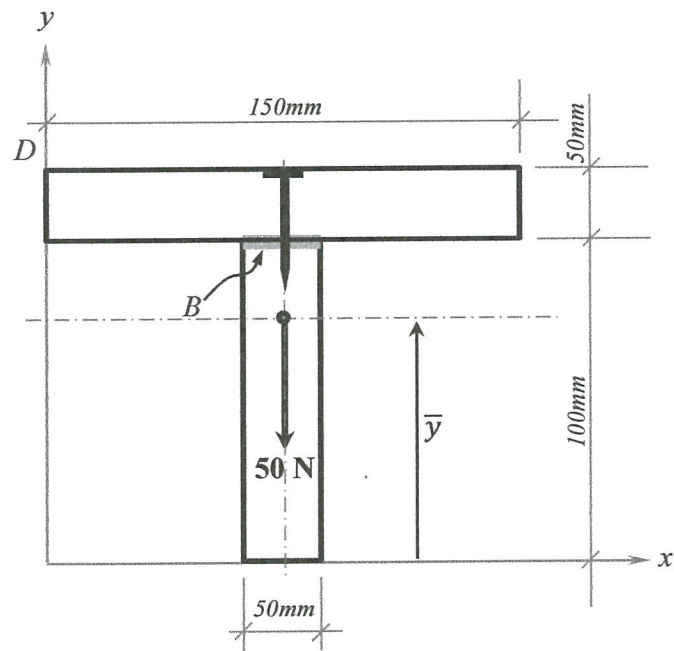

FIGURE Q3
- (b) Based on the cross section given in **Figure Q3**.